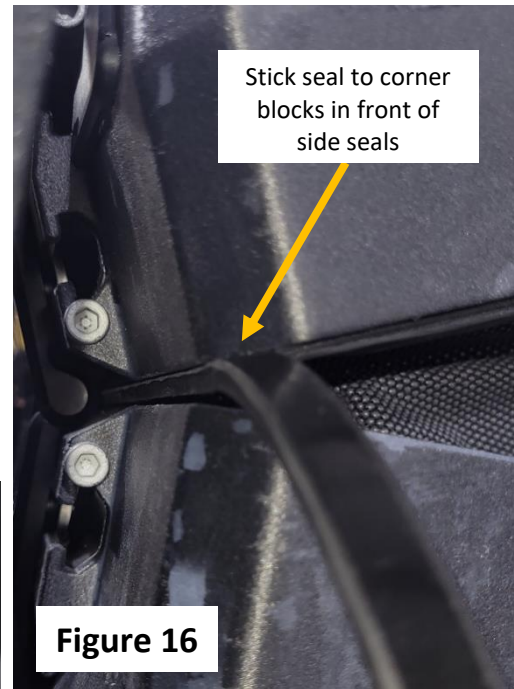

Figure 16
- j. While pulling the seal taut, carefully align the seal with the flat surface of both upper corner blocks directly in front of the side seal and press to stick to the flat surface. See figure 16. Do not worry about pressing the middle of the seal - the tent will be closed to stick the seal in the middle.